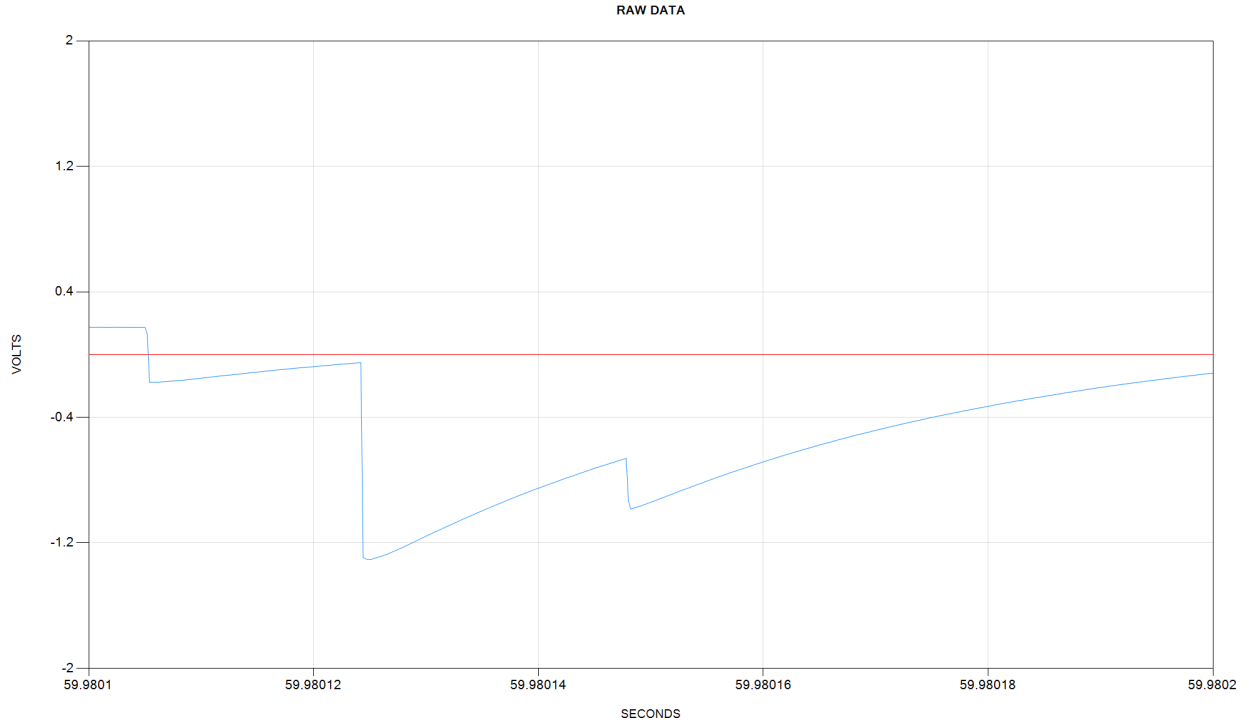

Fig. 4. Long negative step-like pulses from Canberra HPGe preamplifier.
- **Step-like pulses with long time constant** such as the output of preamplifiers - Fig. 4;